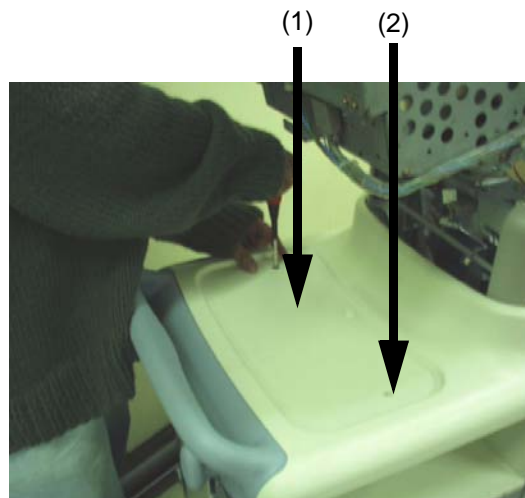

Figure 8-52 Unscrew 2 screws from the Top cover
- 4.) Unscrew two screws (1-2) from the top side of the Top cover. Refer to Figure 8-52.